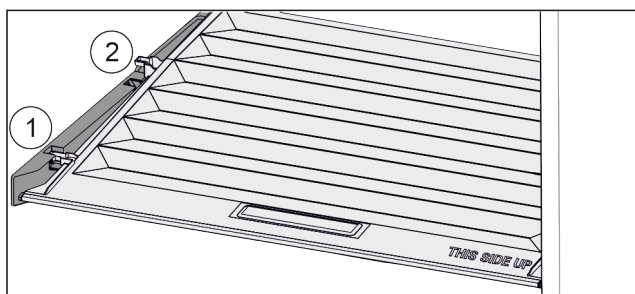

Fig. 41
- ▶ Pull the lid up at the front in the retaining parts to the opening *Fig. 41 (1).*
- ▶ Lift from the back and pull it up and out *Fig. 41 (2).*